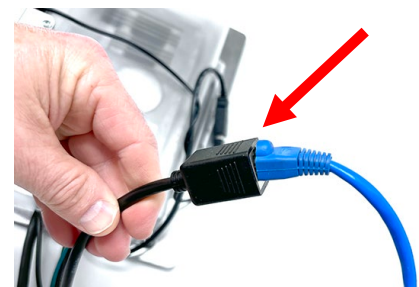

Figure 18
17. If connecting using ethernet, route the ethernet cable to the rear of the Vat #1 controller ethernet connection and connect to the controller (see Figure 18).